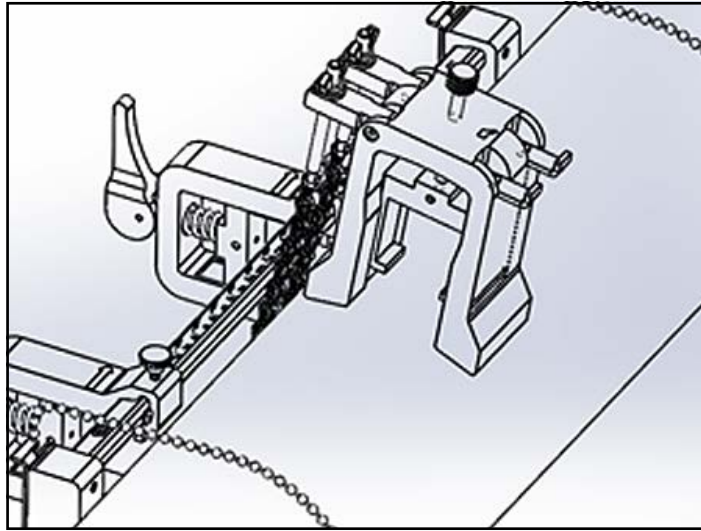

Figure 26: Yoke Placement On Top of Pipe
2. Place the yoke on the top of the pipe (see *Figure 26* below). If the required transducer spacing is <305 mm/12 in., the yoke chain must be placed within the clamping fixture as shown.